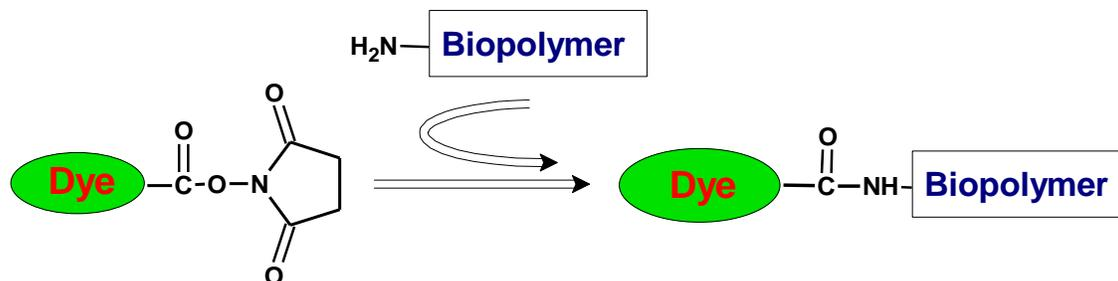

Figure 1. The succinimidyl ester group of fluorophore reacts with amine groups on the protein to form a stable carboxamide bond.
The AnaTag™ AMCA-X Protein Labeling Kit provides a convenient way to label proteins by using the succinimidyl ester (SE) reactive form of AMCA-X. Succinimidyl ester shows good reactivity and selectivity with aliphatic amines of the protein and forms a carboxamide bond, which is identical to, and is as stable as the natural peptide bond (Figure 1). AMCA-X-protein conjugates are very stable and are suitable for immunofluorescent staining, fluorescence *in situ* hybridization, flow cytometry and other biological applications.